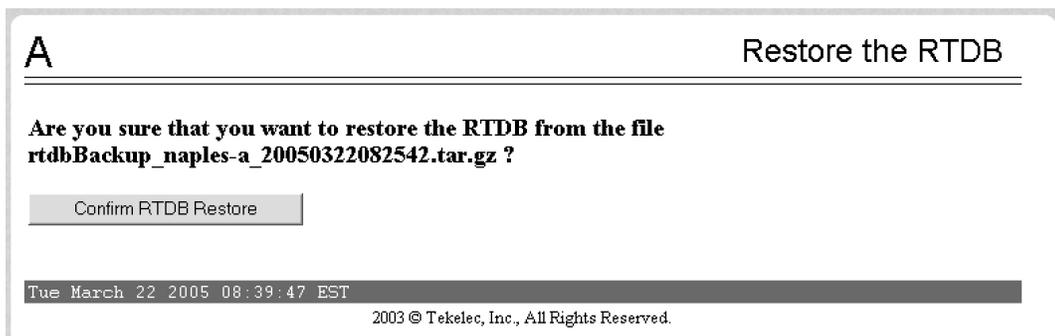

Figure 22: Restore the RTDB Confirm
8. To confirm restoring a file, click **Confirm RTDB Restore** shown in the screen for RTDB in *Figure 22: Restore the RTDB Confirm*: